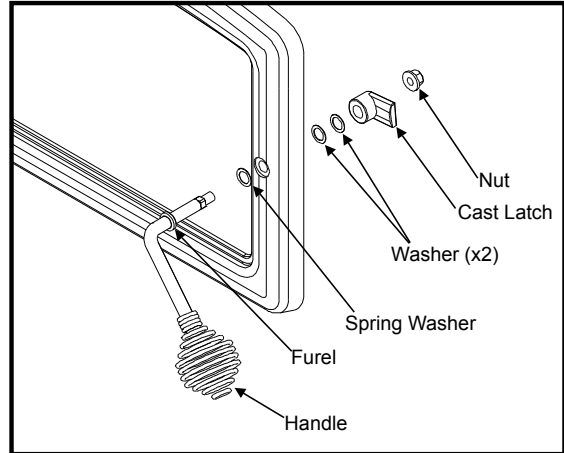

Figure 36: Installation Door Handle Hardware.
1. Install door handle as shown in Figure 36.